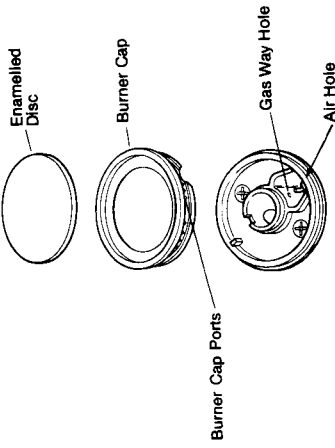

Fig. 6
If only a hotplate burner does not light, check that the gas-way and airhole in the burner is not blocked. (Fig. 6)
**When refitting a hotplate burner cap, (which are all interchangeable) position it onto the burner body and turn it until it drops into place. Replace the burner cap disc, enamelled side up. (Fig. 6)